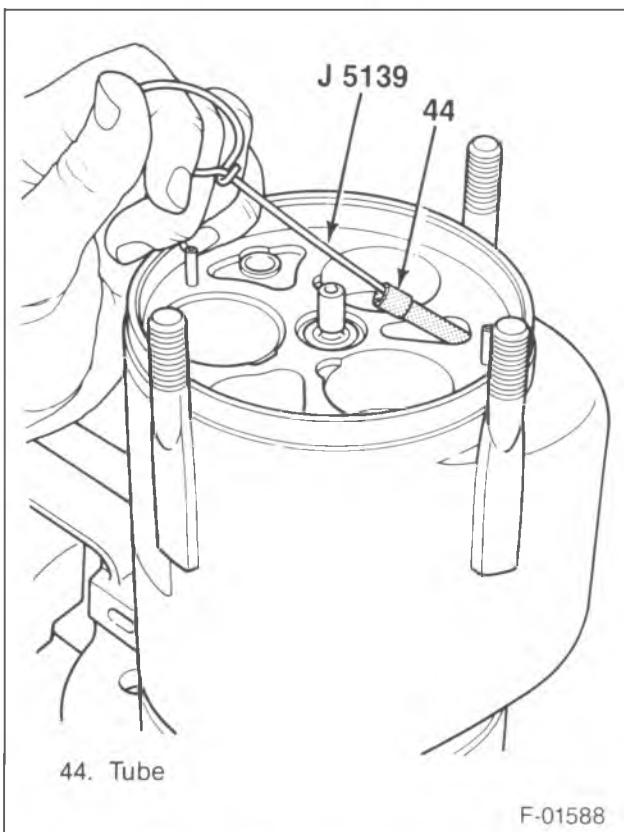

Figure 21—Removing the Oil Pick-Up Tube
- 8. Oil pick-up tube (37) with J 5239 (figure 21).
- 9. Seal (36).